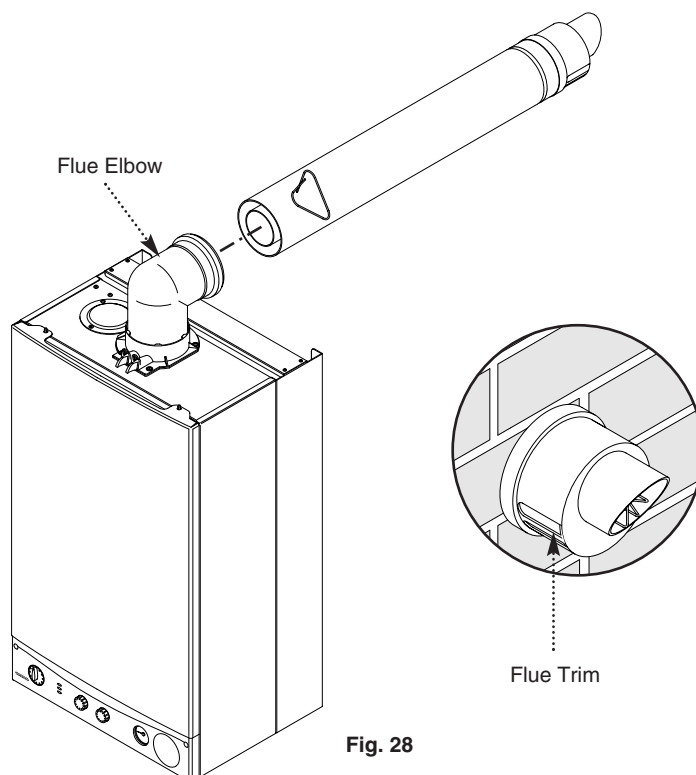

Fig. 28
9. Draw the flue back through the wall and engage it in the elbow. It may be necessary to use soap solution or similar to ease assembly of the elbow adaptor and flue (Fig. 28).